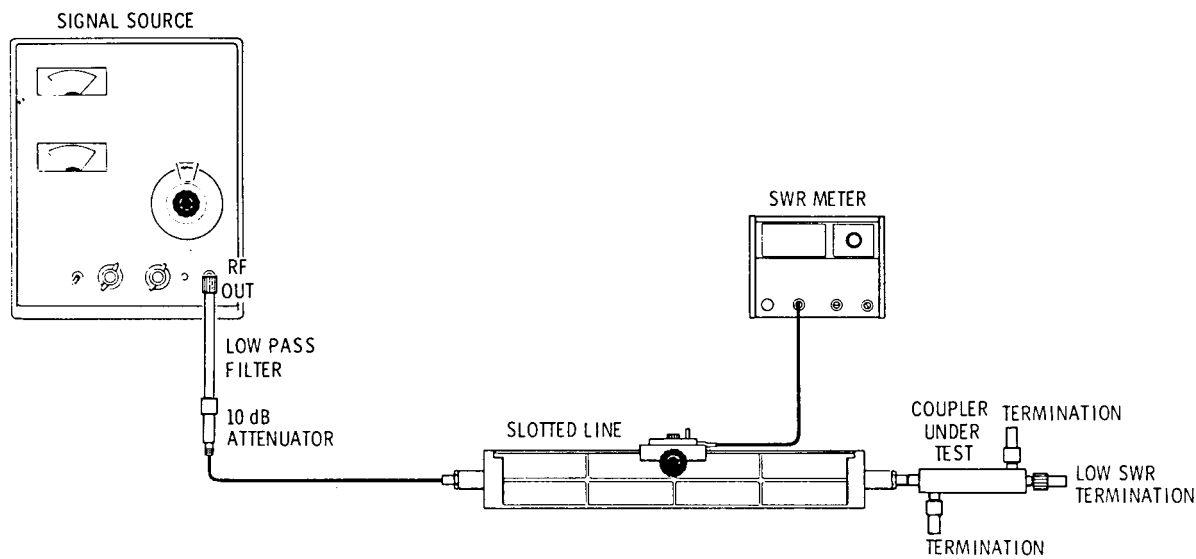

Figure 9 Fixed-Frequency Primary-Line SWR Test Setup
Description Refer to **Figure 9** for test setup and for test equipment.
- Termination (2)
1. Connect the equipment as shown in Figure 9.